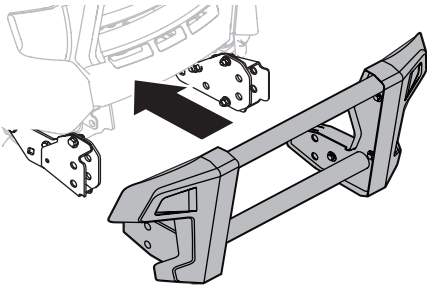

Fig. 16
1. Align the brush guard assembly with the FastAttach™ brackets and push assembly together (Fig. 16).